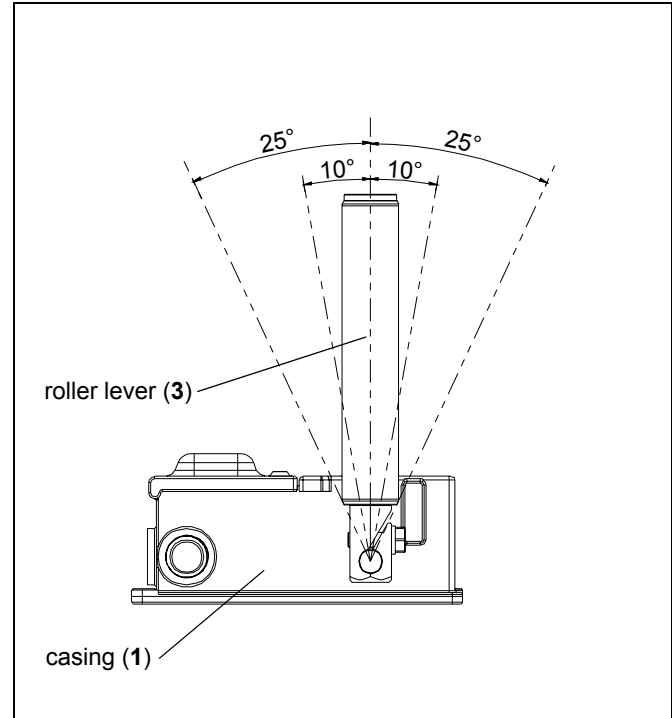

Fig. 3-1: Misalignment switch type MRS 001
Conveyor belt misalignment switches type MRS 001 are provided with two switching points each for both deflection directions of the roller lever (3) (s. fig. 3-1). If the roller lever (3) is deflected about 10° an early warning is generated. If the roller lever (3) is deflected about 25° , the misalignment switch actuates a final shutdown of the conveying plant.